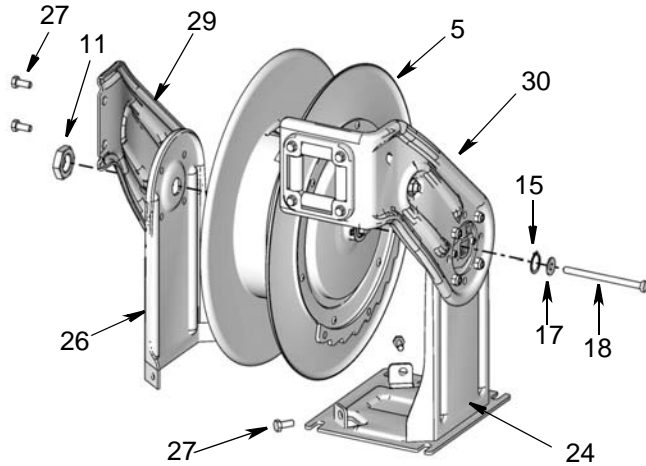
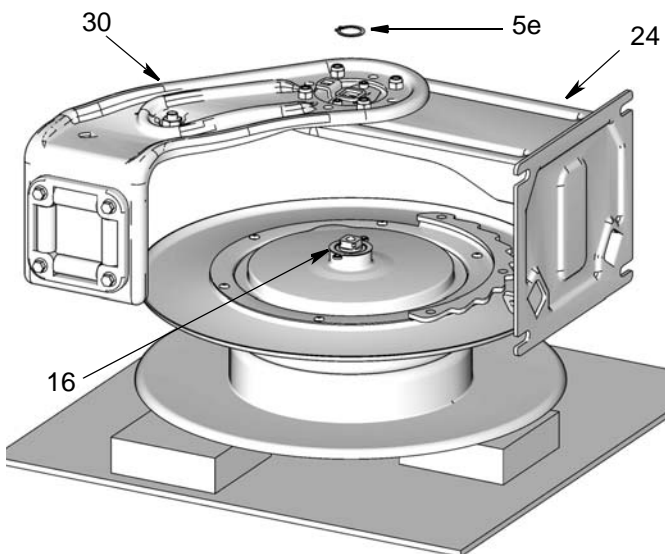

FIG. 16
FIG. 17
5. Remove large nut (11) (FIG. 16).
6. Remove two screws (27) holding pedestal (26) to base (24) and two screws (27) holding guide arm (29) to guide arm (30) (FIG. 16).
7. Completely remove guide arm and pedestal assembly (26 / 29) and set it aside to reinstall on the new spool (FIG. 16). These parts do not have to be disassembled.
8. Lay hose reel on its side so you can easily access the guide arm and pedestal (24 / 30). Remove long bolt (18) and washers (15 / 17) (FIG. 16 and FIG. 17).
9. Remove snap ring (5e) (FIG. 17).
12. Place new spool (5) on its side on a work bench. Make sure the flat side of the spool faces down on the table and the ratchet side is facing up, as shown in FIG. 17.
**NOTE:** It is easier to reattached the guide arm and pedestal assembly to the spool if the spool is supported and somewhat level. Placing a couple blocks of 1" thick scrap wood under the spool as shown in FIG. 17 (page 22) will help support the spool during the arm installation.
16. Install washers (15 / 17) and long bolt (18), but do NOT tighten bolt.
19. Install large nut (11) (FIG. 16, page 22). Tighten and torque nut to 85-105 ft. lbs (378 - 467 N.m).
20. Tighten bolt (18).
21. Align guide arm (29) and guide arm (30). Install screws (27). Tighten and torque screws to 20-30 ft. lbs (89 - 133 N.m).
22. Align pedestal assembly (26) to base (24). Install 2 screws (27). Tighten and torque screws to 20-30 ft. lbs (89 - 133 N.m).